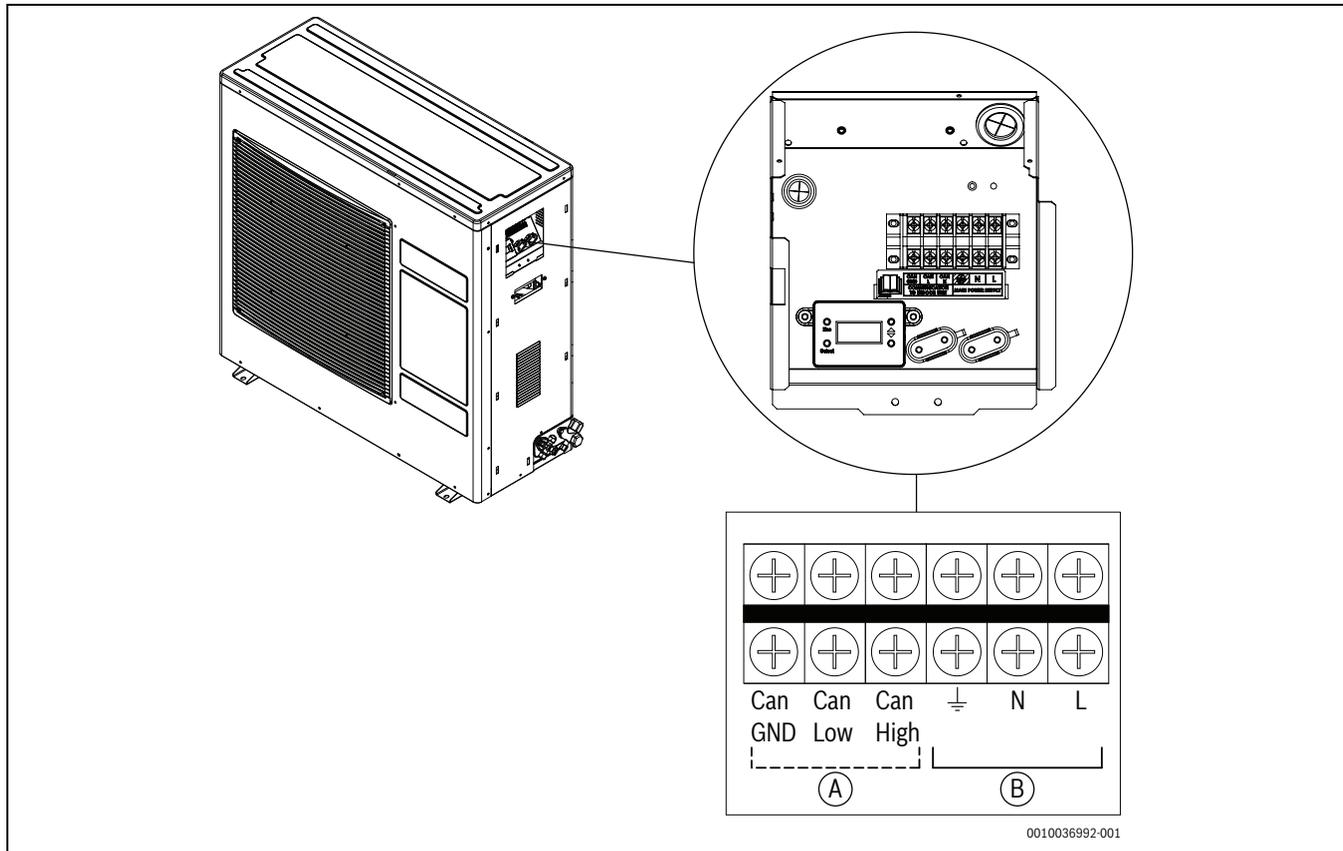

Fig. 19 Cable connections
4. Connect the communication cable between outdoor and indoor units (fig 19 [A]). The end of the communication cable that connects to the indoor unit must be shielded.
5. Connect one end of the power supply to the outdoor unit (fig. 19 [B]) and the other end to the mains distribution board.